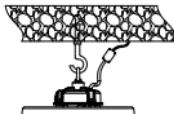

Figure 6
6. Open the power to make sure if the product can be lighten. (fig.6)